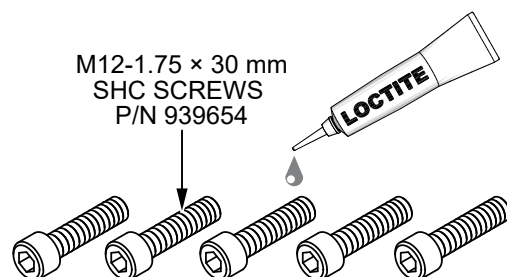

Figure 8. Apply Loctite 242 to New Screws
5. Apply Loctite Blue 242 (P/N 1477) to the threads on five new M12-1.75 × 30 mm SHC screws (P/N 939654). See Figure 8.